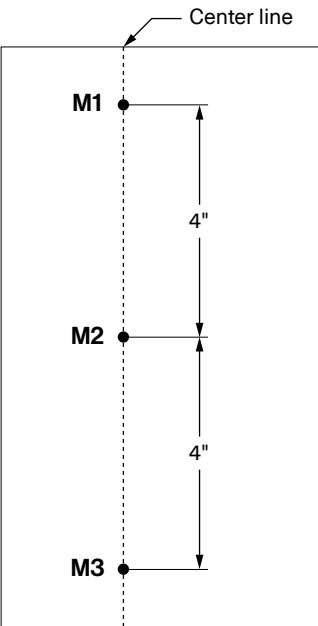

Fig 2a - Mounting hole locations
- 2.2 Mark a point for the first mounting hole (≥1" from the top edge) and label it M1 (closest to the arrows). Mark two more mounting holes 4" (101.6mm) apart and label them M2 and M3 [Fig 2a].